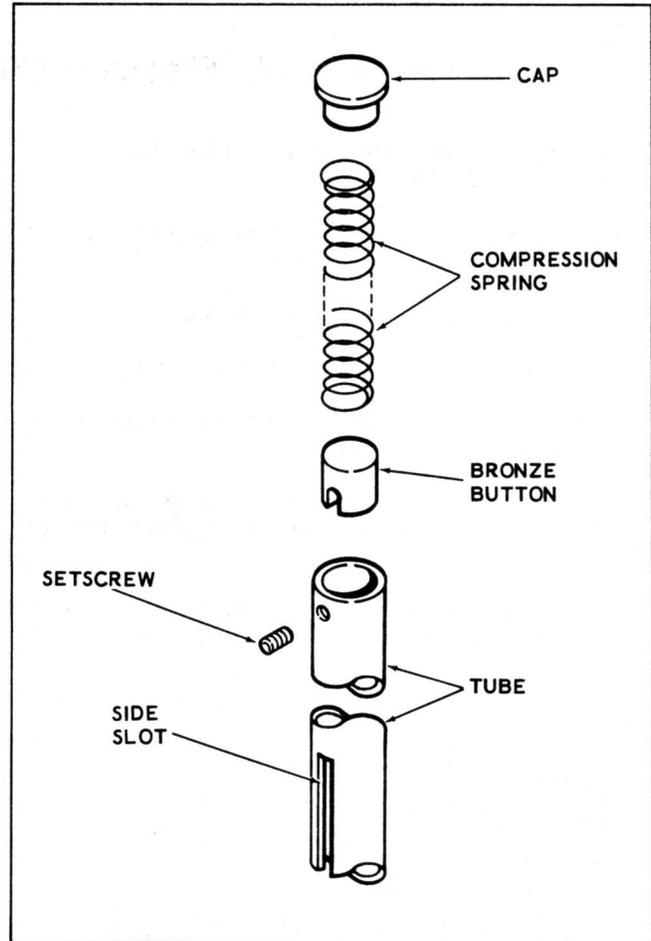

Figure 6-2. Replacing Dancing Roller Compression Spring and Button
To remove and install the dancing roller compression spring and bronze button (Figure 6-2) for cleaning or replacement, proceed as follows:
b. Loosen setscrew in cap (Figure 6-2) and remove cap from top of tube.